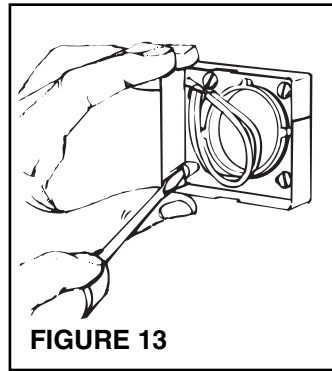

FIGURE 13
3. Refer to Figure 13. For some drywall or panel construction, the plaster frame will extend beyond the finished wall. In this case, remove plaster frame from mounting bracket by removing mounting screws.